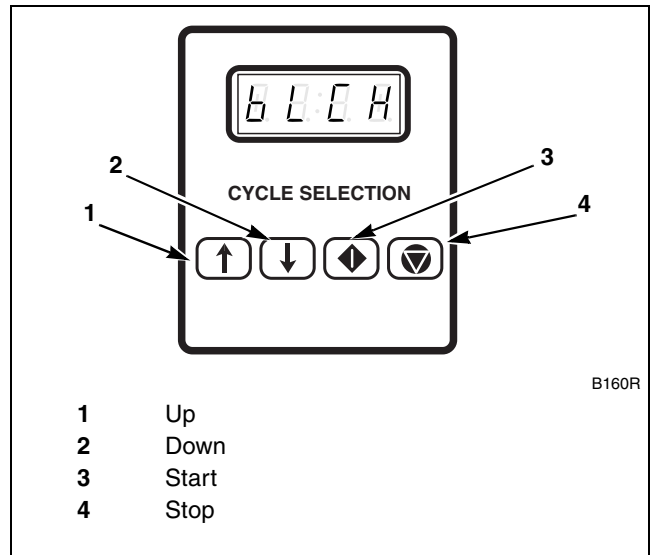

Figure 30
9. **When applicable,** add beach to container 2 when the display reads “bLCH”. Refer to *Figure 30*.